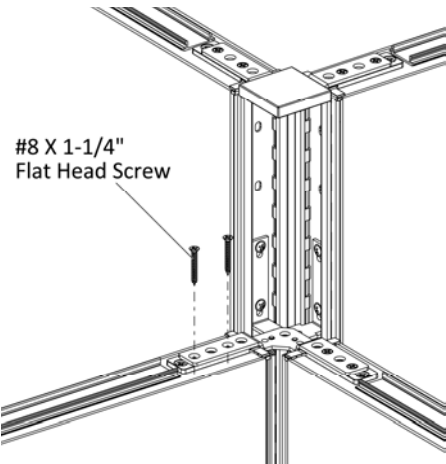

Figure 10
- 16.** Drive two #8 X 1-1/4" Flat Head Screws through the holes in intermediate panel connector into the panels, (Figure 10).